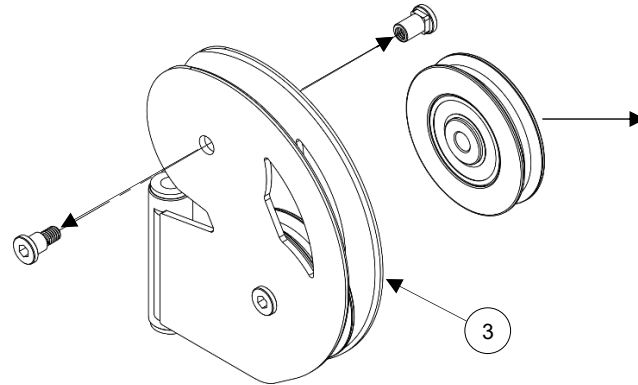

Figure 11: Removing the top pulley
5. Using the provided 5mm L-Key, remove the top pulley sex bolts and pulley from the Pulley Block Assembly (3) (**Figure 11**). Set top pulley aside for later use.